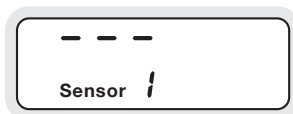

fig.7
8. When you release the button, the screen will show dashes indicating the display is tuning to the Appliance Sensor (fig.7).